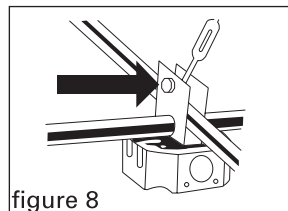

figure 8
7. Tighten the locknut at the top of the electrical box bracket so that it clamps the stabilizer bar securely (figure 8).